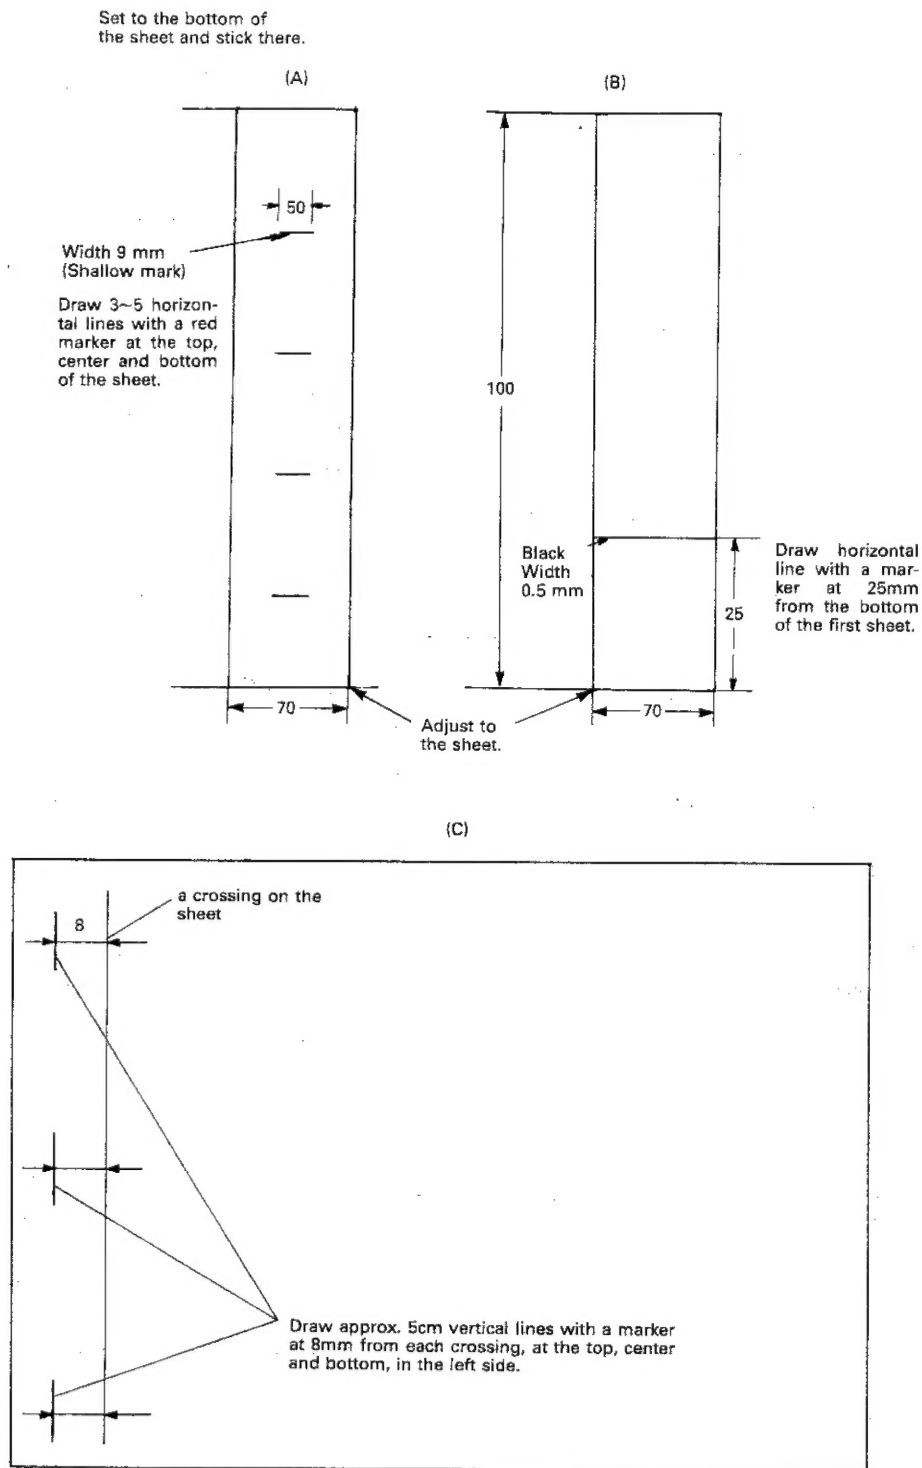

Figure 7
- (1) Remove the rear cover and install the printer.
- (2) Remove the front frame and turn on the power switch. After the initial setting, select the 4th Frame.
- (3) Draw horizontal lines with the marker at two positions, 35 mm from the upper and the lower ends of the writing white sheet as shown in Figure 7.